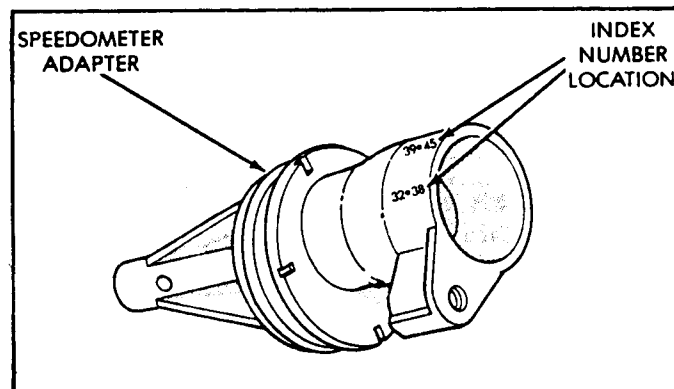

Figure 51
7. Note index numbers on adapter body, as shown in Figure 51. These numbers will correspond to the number of teeth on the speedometer pinion.
9. Rotate adapter until required range of numbers are at 6 O-Clock position. Be sure range index numbers correspond to number of teeth on speedometer pinion. (See Figure 51).